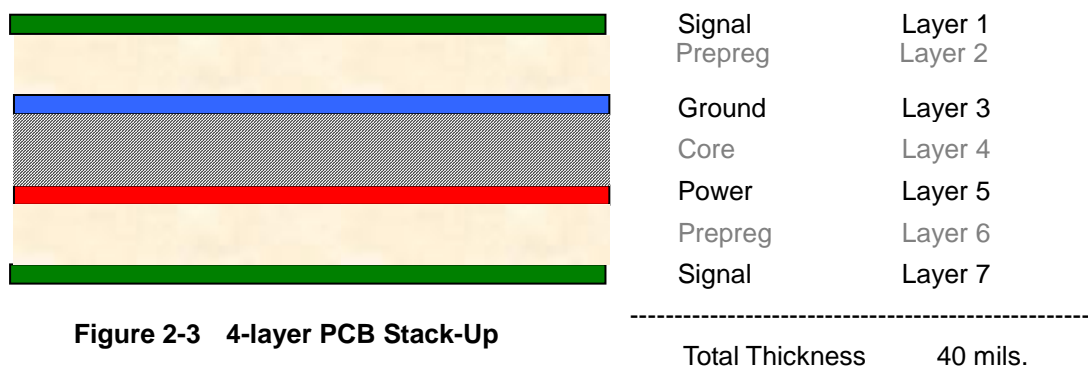

Figure 2-3 4-layer PCB Stack-Up
- The minimum Stack-up required four layer stack. There must have a ground layer to separated two signal layers. Just as describes in Figure 2-3.